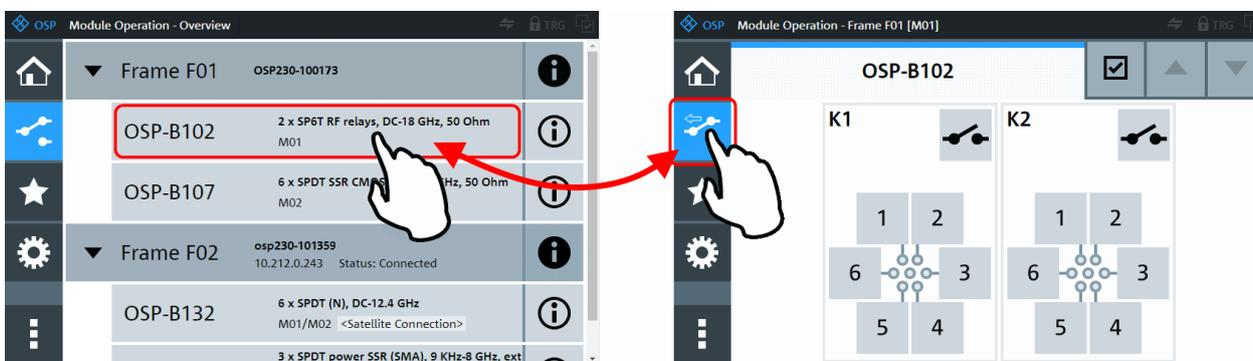

Figure 5-6: List of frames and modules (left), individual module interaction dialog (right)
- Individual module **operation** in the right-hand dialog in Figure 5-6 is described in section "Switching Relays and Channels" on page 153.
- If you see the interaction dialog of one switch module (as on the right in Figure 5-6), click the "Module Operation" button to see the list of installed modules (as on the left in Figure 5-6). In the icon of the "Module Operation" button, the